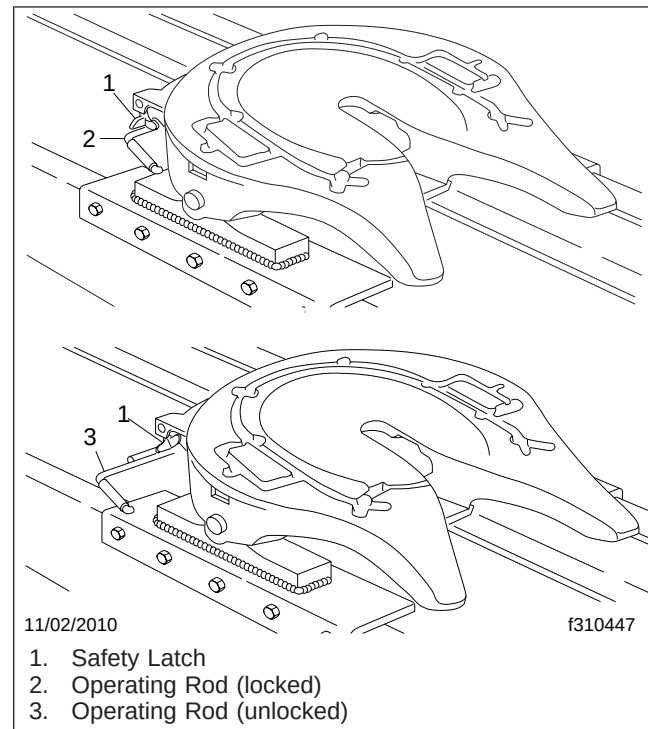

Fig. 10.11, Simplex Kingpin Locking Mechanism, Locking and Unlocking
pin to move out of the mechanism. With the jaw in the fully open position, the operating rod drops out of the lockset position, and the fifth wheel is ready for coupling. See Fig. 10.11.
- If equipped with a manual kingpin lock release:* Release the kingpin lock mechanism by raising the safety latch to the rear and pulling the lock operating rod out and up into the lockset position. See Fig. 10.11. The offset of the lock control upper rod should bottom against the plate casting above the hole. If the operating rod cannot be pulled to the lockset position, back the tractor slightly to release the kingpin force against the jaw.
If equipped with an air-operated kingpin lock release: Pull the air-release knob on the dash. *From outside the cab,* visually check that the operating rod has bottomed out against the plate casting above the hole. See Fig. 10.11. If the operating rod isn't in the unlocked position, back the tractor slightly to release the kingpin force against the jaw.